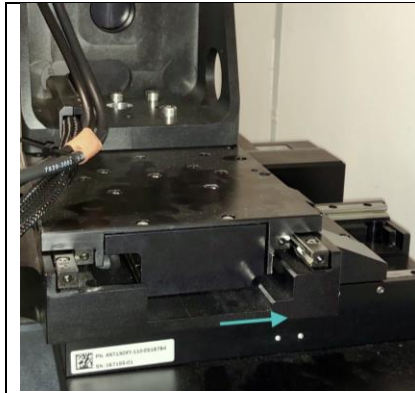

Fig 1. Move primary stage into mid-travel position.
- Move the primary stage to mid-travel position and adjust the secondary stage to expose two screw holes (Figs 1 and 2).